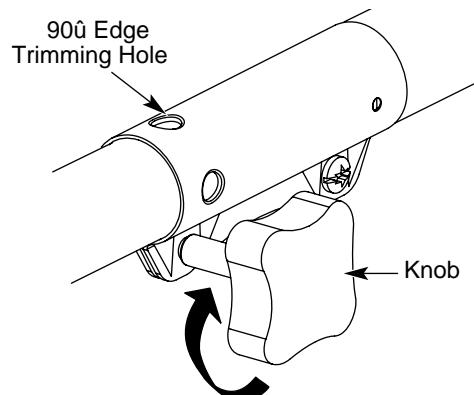

Fig. 8
3. Turn the knob clockwise to tighten (Fig. 8).
For decorative trimming/edging with the line head cutting attachment , lock the release button of the cutting attachment into the 90^o hole (Fig. 8).